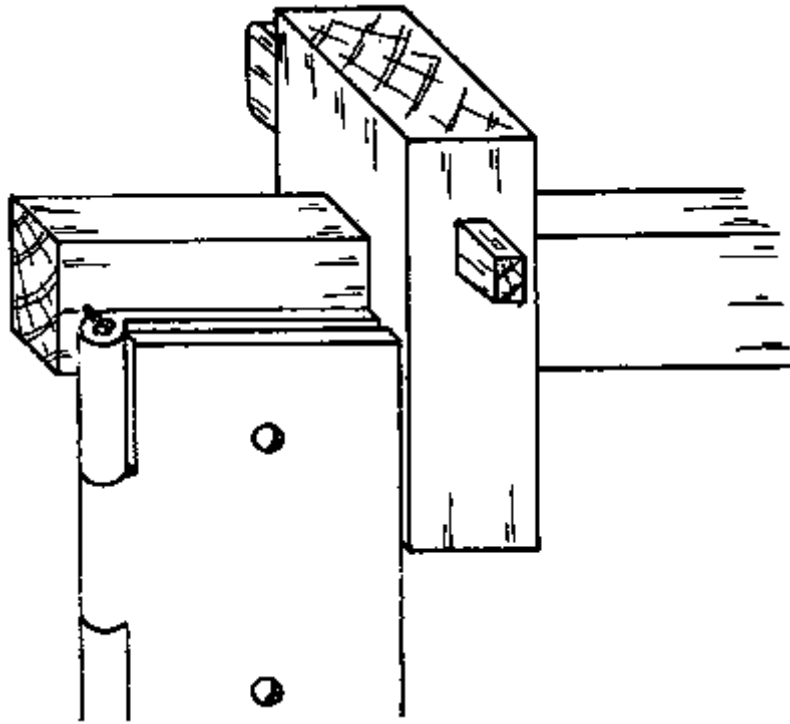

Fig. 2
- d. Set the marking gauge from the middle of the pin of the hinge to the edge of the hinge leaf, and mark the distance on the edge of the door (Fig. 2).